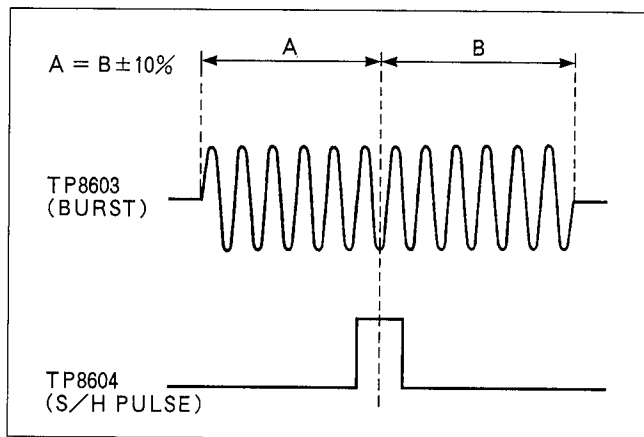

Figure E39
3. Adjust VR8601 so that the position of S/H pulse (TP8604) becomes as shown in Figure E39.